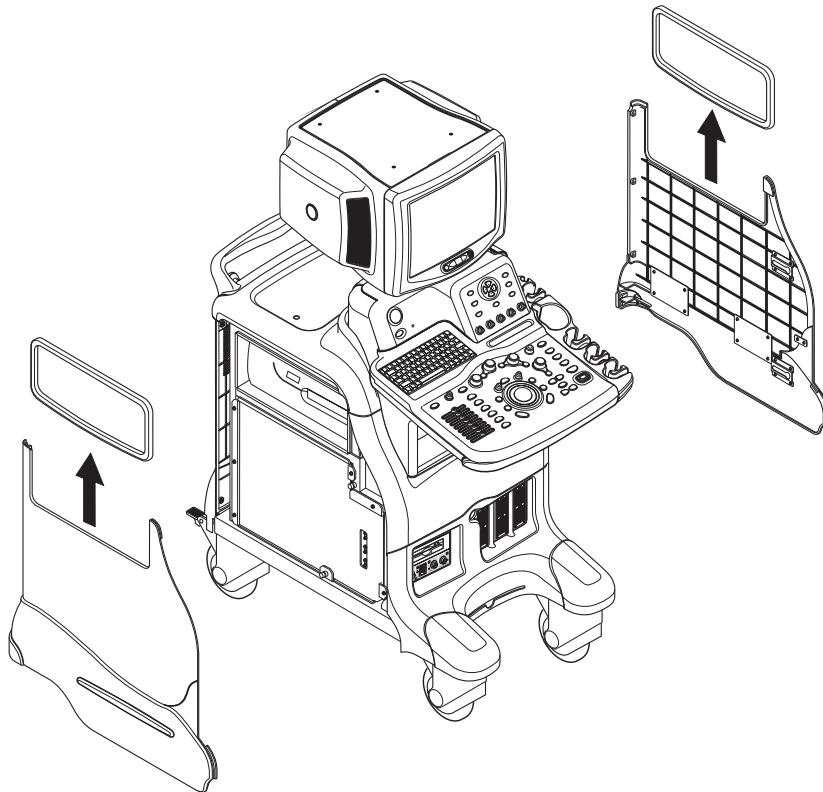

Figure 8-64 Removing the Side Caps
- 4.) Pull the Side Fringe upward from the Right Cover. Refer to Figure 8-64.